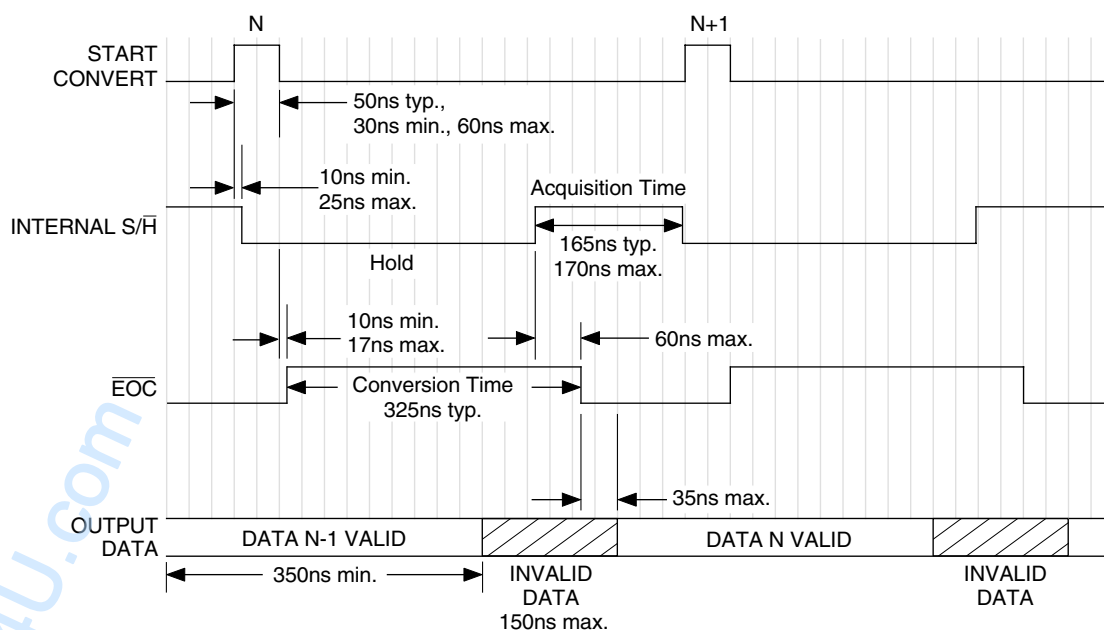

Figure 2. ADS-117 Timing Diagram
- Figure 2 shows the relationship between the various input signals. The timing shown applies over the operating temperature range and over the operating power supply range.